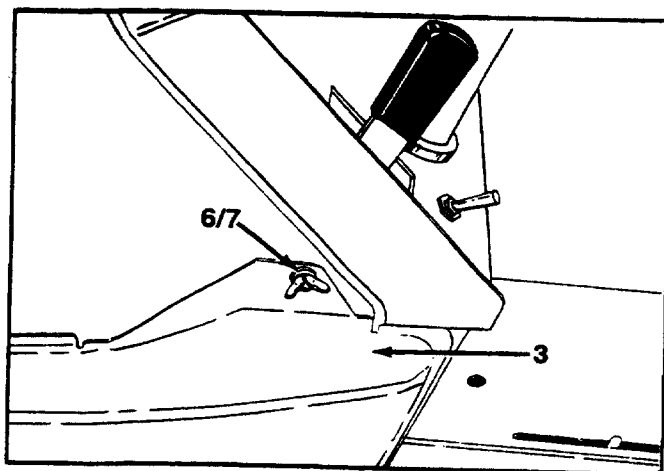

FIGURE 3.
5. Remove the two side panels from tractor, by removing the extension spring, flat washer and wing nut on each side. See figures 3 and 4. Retain spring and hardware for reassembly.